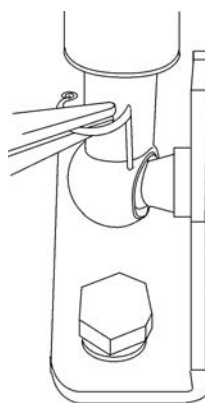

Figure 4-3.
4. Using needlenose pliers, rotate the retaining clip outward, then pull the clip out (Figure 4-3).